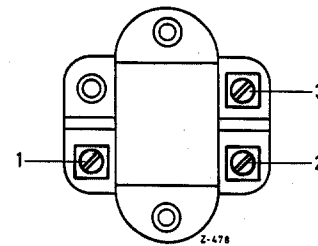

Fig. 82 — 16/1
the green/black cable (Leads Nos. 70 and 68) to Terminal (3) (Fig. 82 — 16/1; the terminal numbers are not marked on the toggle change-over switch).